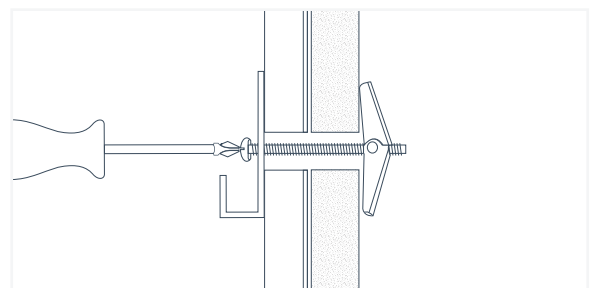

Fig. 54
4. Lightly pull forward on the entire assembly until you feel the wings grip against the back of the Wall&CeilingBoard panel or backer material and then proceed to tighten the bolt until the assembly is tight to the wall (Fig. 54).